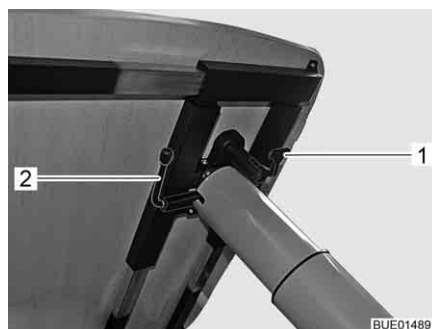

Fig. 105 Adjustment of lift-off table
- Fold lever (Fig. 105,1) downward.
- Swivel the lever (Fig. 105,2) underneath the table-top by 180° in an anti-clockwise direction. The lifting mechanism in the table leg is unlocked.
- Swivel the lever (Fig. 105,2) underneath the table-top by 180° in an anti-clockwise direction. The table-top moves upwards to the limit stop.